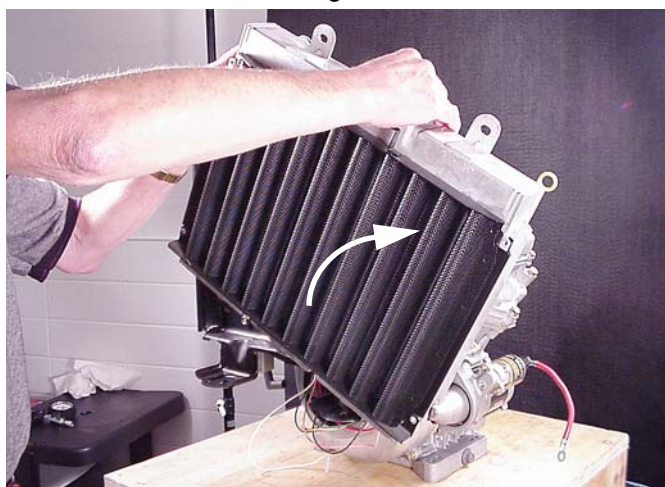

Fig. 36
4. Rotate radiator clockwise so that coolant outlet clears fan shroud, Fig. 36.